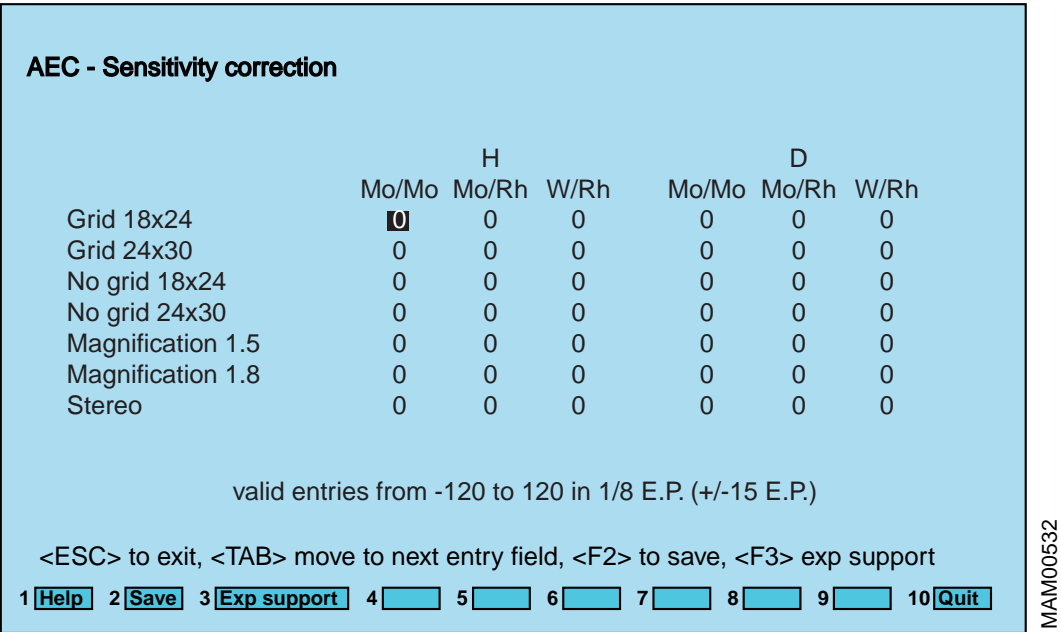

Fig. 10 Set the sensitivity correction for all desired object tables.
6. If the value differs from 1.5 O.D. (or by customer preferred) adjust the values in dialog *AEC - Sensitivity correction* (Fig. 10). Repeat the procedure described in steps 2 to 6. Save with <F2>.